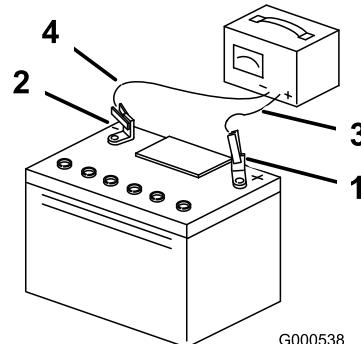

Figure 28
3. When the battery is fully charged, unplug the charger from the electrical outlet, then disconnect the charger leads from the battery posts (Figure 28).